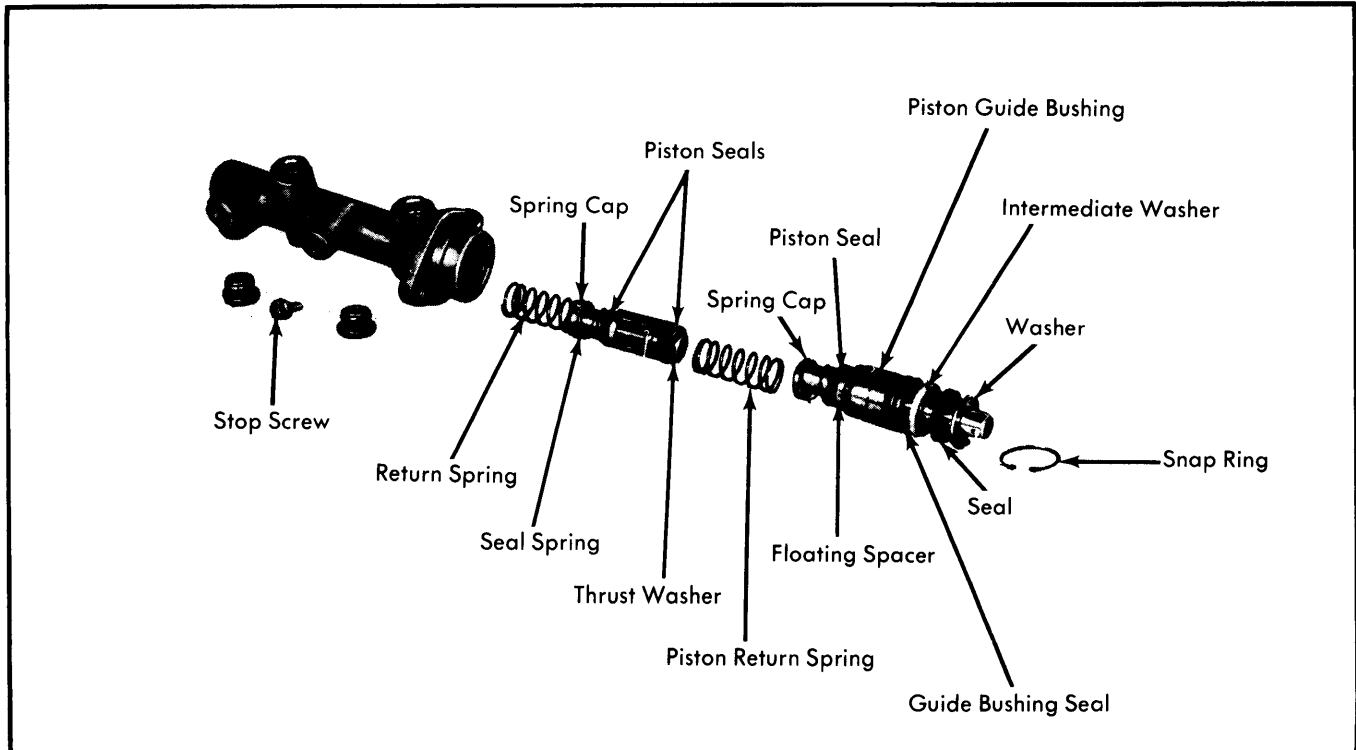

Fig. 3 Exploded View of Master Cylinder Internal Components. Primary and Secondary Piston Shown are Assembled, but Separate from Each Other
2) Back out piston stop screw. Remove front piston in assembled state. Separate following components from piston: (Also, refer to Fig. 3)